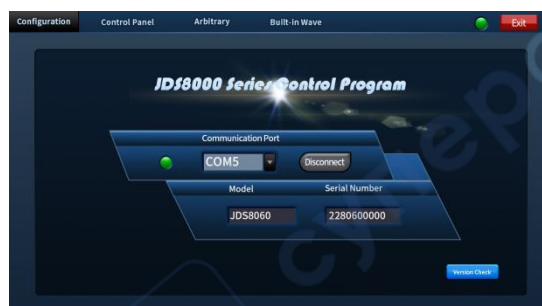

Figure 3-8-9
- Step 3: The connection is successful. The successful connection interface is shown in Figure 3-8-9 below.